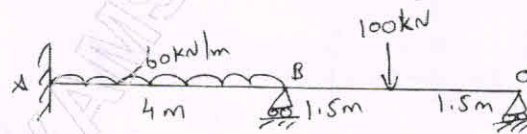

Fig.Q9
- 9 Analyze the continuous beam shown in Fig.Q9 by stiffness matrix method. Draw BMD.